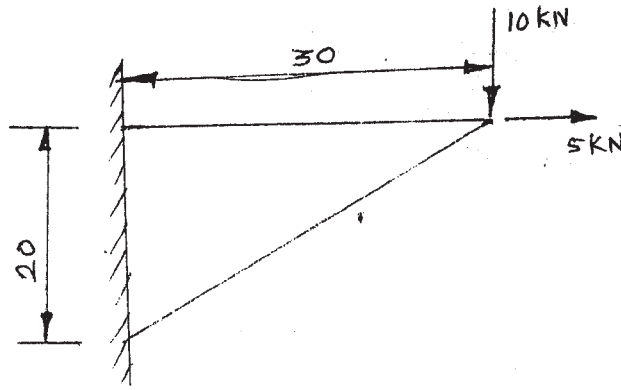

Fig. 5
- b)** A two dimensional loaded plate is shown in fig. 5. Determine the displacement of nodes 1 and 2 using plane stress condition by considering it as a single element. Ignore body forces. Also determine the reaction forces and the stresses in the element. Assume thickness as 10 mm , $E = 70 \text{ GPa}$ and $\mu = 0.3$. [10]